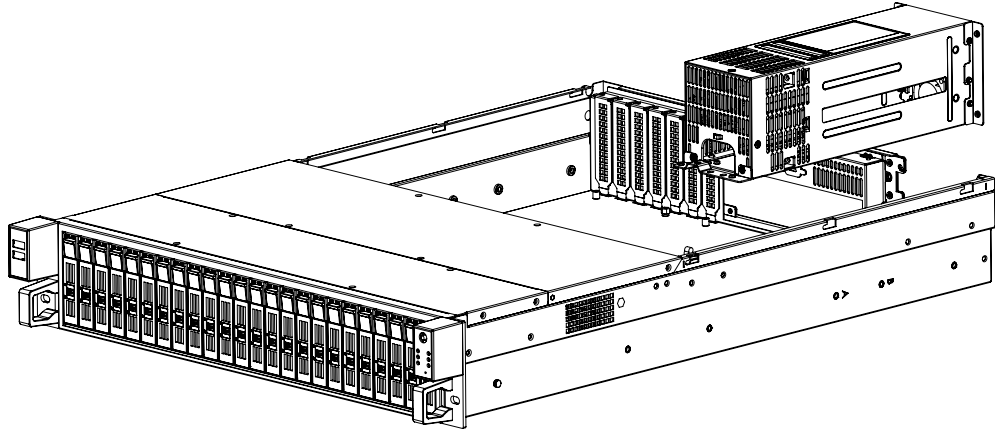

Figure 3.5: Replacing the power supply/ 更换电源 / 更換電源
4. Loosen the 4 screws on the rear plate and 2 screws at the bottom of the chassis. Gently remove the chassis (see Figure 3.5).